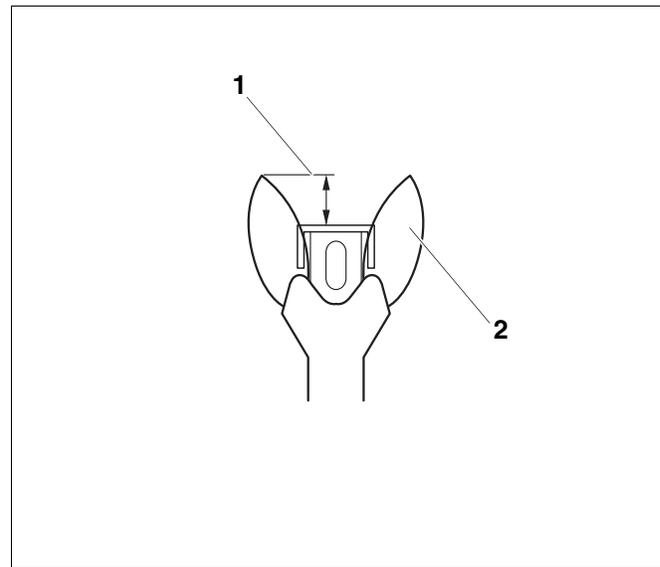
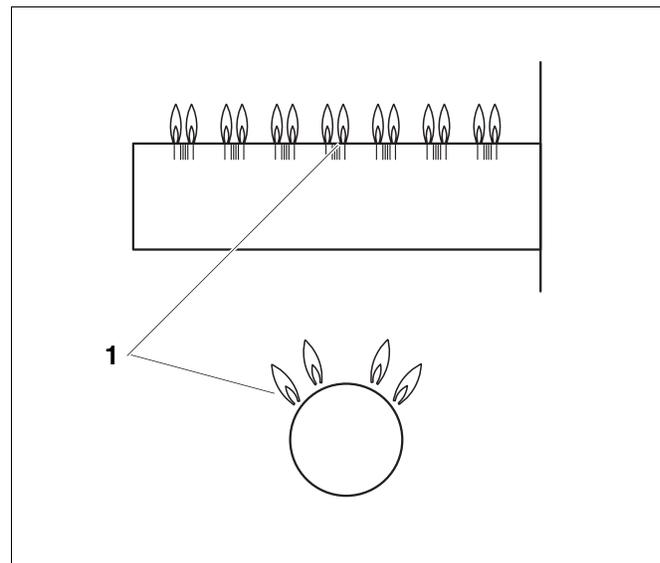

Fig. 13 Correct pilot flame setting
Fig. 14 Main burner
19. Test the safety switch by closing the gas valve. The main burner flame (→ Fig. 14) and the ignition flame (→ Fig. 13) are extinguished. After six (6) seconds at the most the main gas solenoid valve on the gas valve must close with an audible noise.